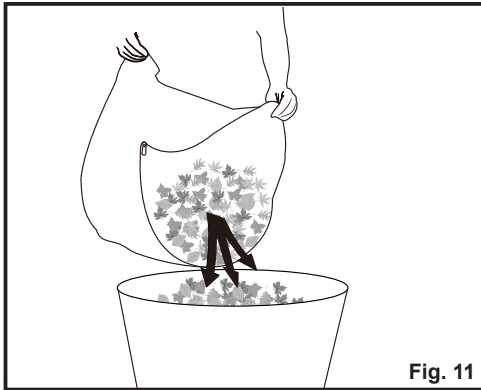

Fig. 11
3. Open the zipper of the collection bag and empty it completely (Fig.11).